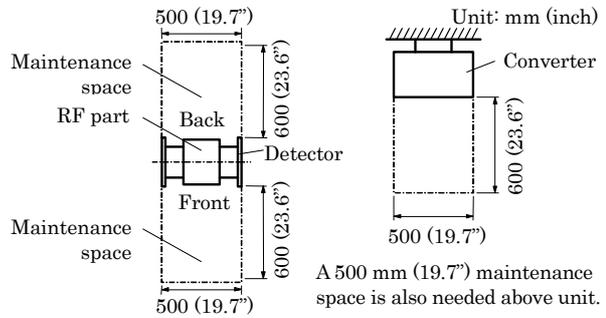

Figure 5. Clearance space
- (1) Choose a place that is free of as much vibrations and corrosive gasses as possible, and has ample space for maintenance.
- (2) Secure maintenance space around the converter and detector RF section. (Refer to Figure 5)
- (3) In the case of outdoor installation, provide covering against sun and rain.
- (4) It is recommended that the converter be installed about 1.5m (the position of windows) from the floor. The display is on the front panel of the density/%TS meter. Install the converter in a location and orientation easy to see this display.
- (5) Do not install the meter in a place where there is a possibility of leakage of flammable or explosive gas.
- (6) Do not install the meter in any of the following places:
- (7) Install the meter in a place where air bubbles are not generated, where pipe is always full of fluid, and sedimentation and accumulation of solid matter do not occur.
- (8) Install the meter in a place where density distribution is uniform. If the distribution inside the pipe is uneven, manual analysis data and the indicated value of the density meter may not show the same value.
- (9) Ensure that the flow rate of the fluid to be measured is 0.6m/s or more.